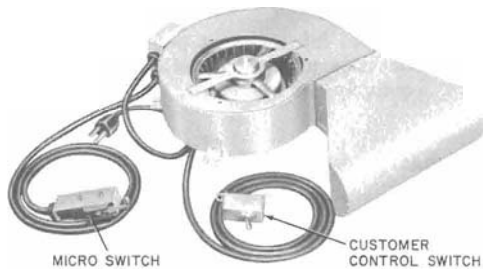

Fig. 9—KS-16797, List 9 (MD) Blower Assembly
2.18 Booth ventilation is provided by use of a KS-16797, List 9 (MD) blower assembly (Fig. 9). The assembly includes an interlock switch mounted in the door track to control the operation